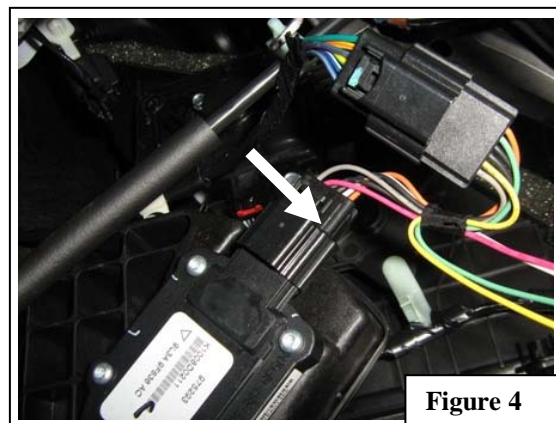

Figure 4
- 4.  Locate the 6 pin plug and mate connectors to the **Pedal Interface Harness**. Remove the accelerator 6-pin connector and apply to mating connector of **Pedal Interface Harness**. Apply the remaining connector to the accelerator. **Figure 4**